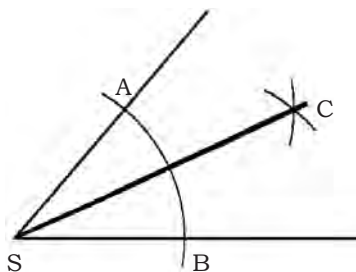

Fig. 1.7: Bisecting an angle
2. To obtain points A and B on the lines, draw an arc with S as the centre as shown in Fig. 1.7.